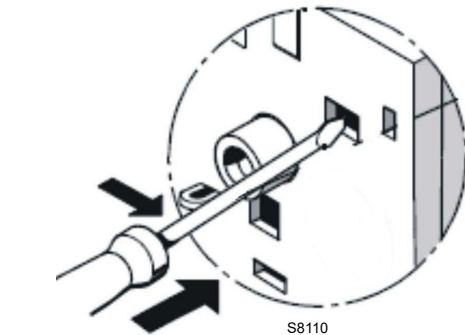

Fig. 29
- To test the thermal relay, insert a screwdriver in the window **"TEST"** (Fig. 29) and move it in the sense of the arrow (towards right).
- **Contact test NC (95-96) and NO (97-98)(Fig. 29)**